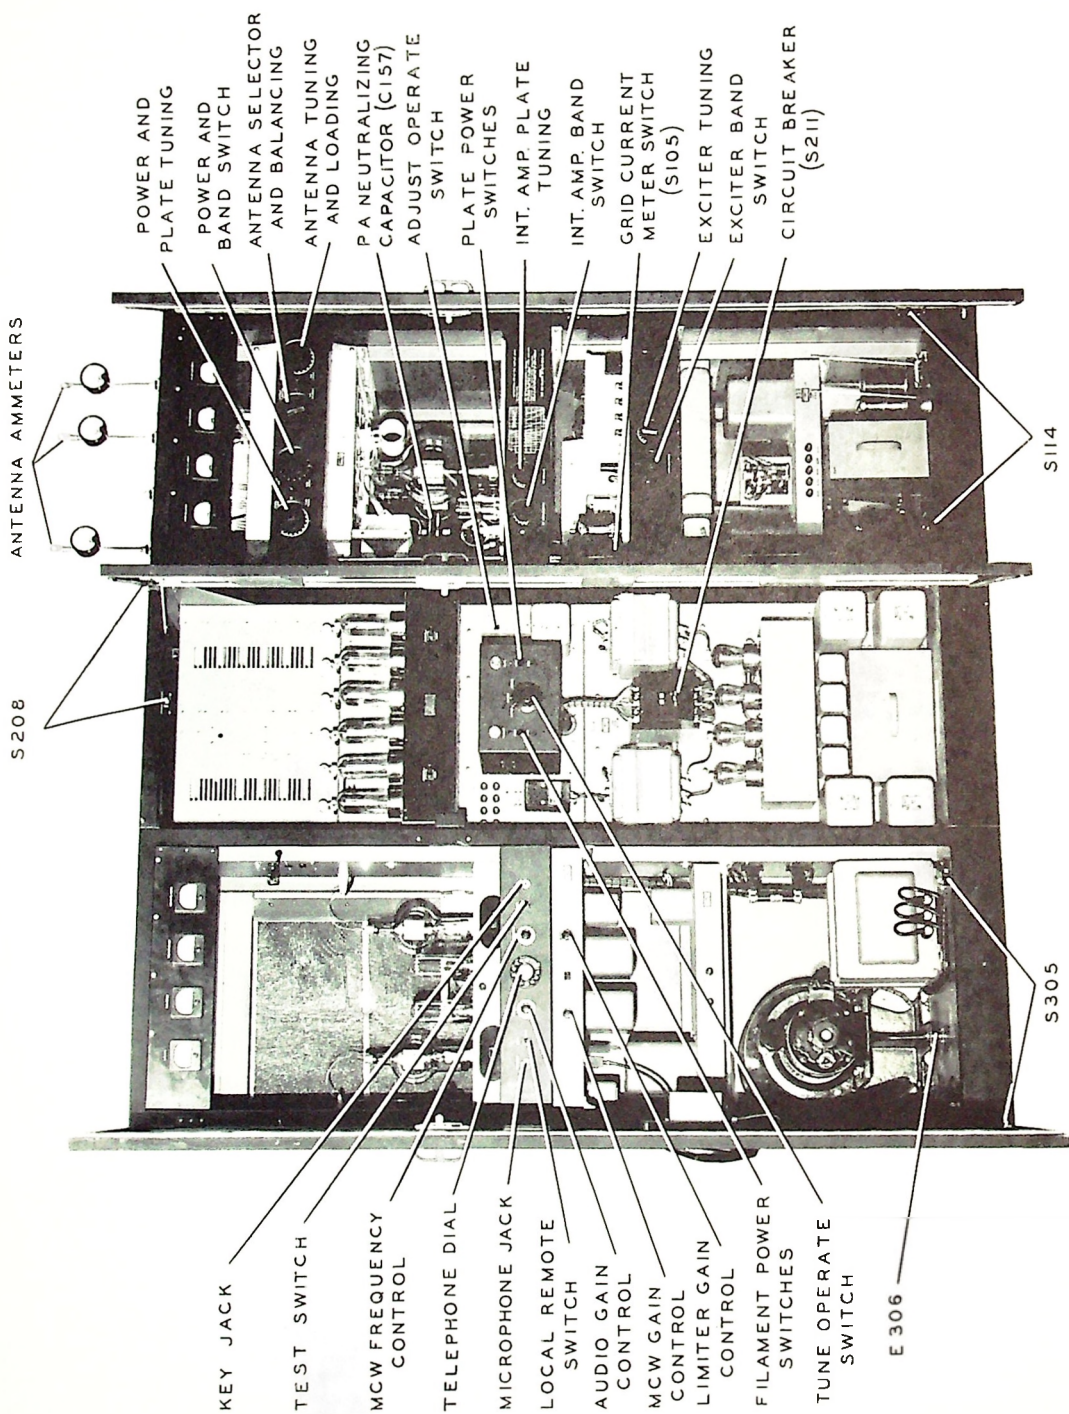

Figure 24. Modulator, Power Rectifier and Transmitter
4.2. CONTROLS. See figure 24. The transmitter may be controlled from a position near the transmitter cabinet or from a remote position. The controls are normal for remote control. All tuning adjustments must be made and the Autotune stop rings locked before assuming control from the remote operating position. Manual adjustment of all Autotune dials is possible without disturbing the position of the stop rings if AA2 is dialed.